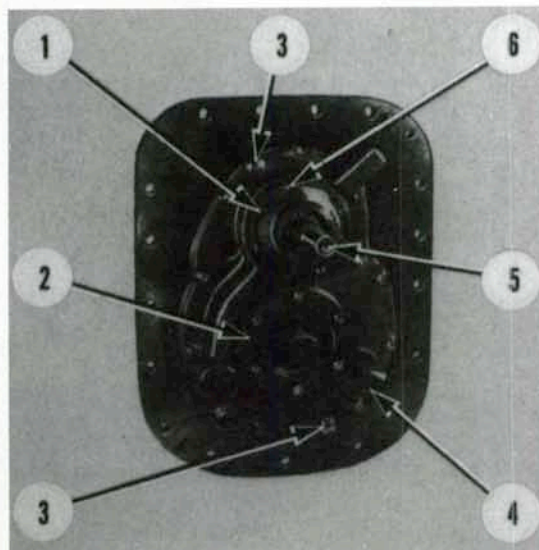

Fig. 206—View showing rear of transmission.
Remove four screws (6—Fig. 206) securing low pressure oil pump (1) to rear cover (4). Carefully withdraw pto shaft (5) and pump as an assembly. Remove outer snap ring retaining pto shaft bearing in pump